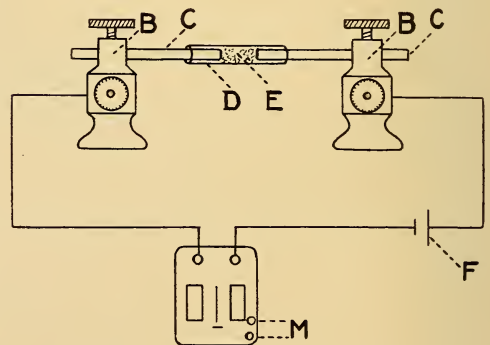

FIG. 4. COHERER IN CIRCUIT.
Fig. 4 is shown a type that will answer perfectly well for experimental purposes and is fairly sensitive.
The coherer consists of two double lead binding posts (BB), two brass silver-plated rods (CC) large enough in diameter to make a snug fit in the binding post and about two inches in length, a glass tube (D) and filings. The binding posts should be mounted on a wood base one-half inch in thickness polished or varnished to suit the taste, and two inches apart. The silver-plated rods are mounted end to end with a space of about one-sixteenth inch separating the two ends. In the space between the ends of the rods are placed the filings, being held in place by the glass tube slipped over the ends of the rods as shown in Fig. 4 at (E). The filings should be prepared by sawing a nickel block with a hack saw. The filings should be sifted through a fairly thin mesh cheese cloth, the dust which goes through being thrown away while the larger pieces are retained and placed in the space at (E). It is also well to heat the filings after preparation, so as to drive away moisture which will prove detrimental to the working of the instrument.